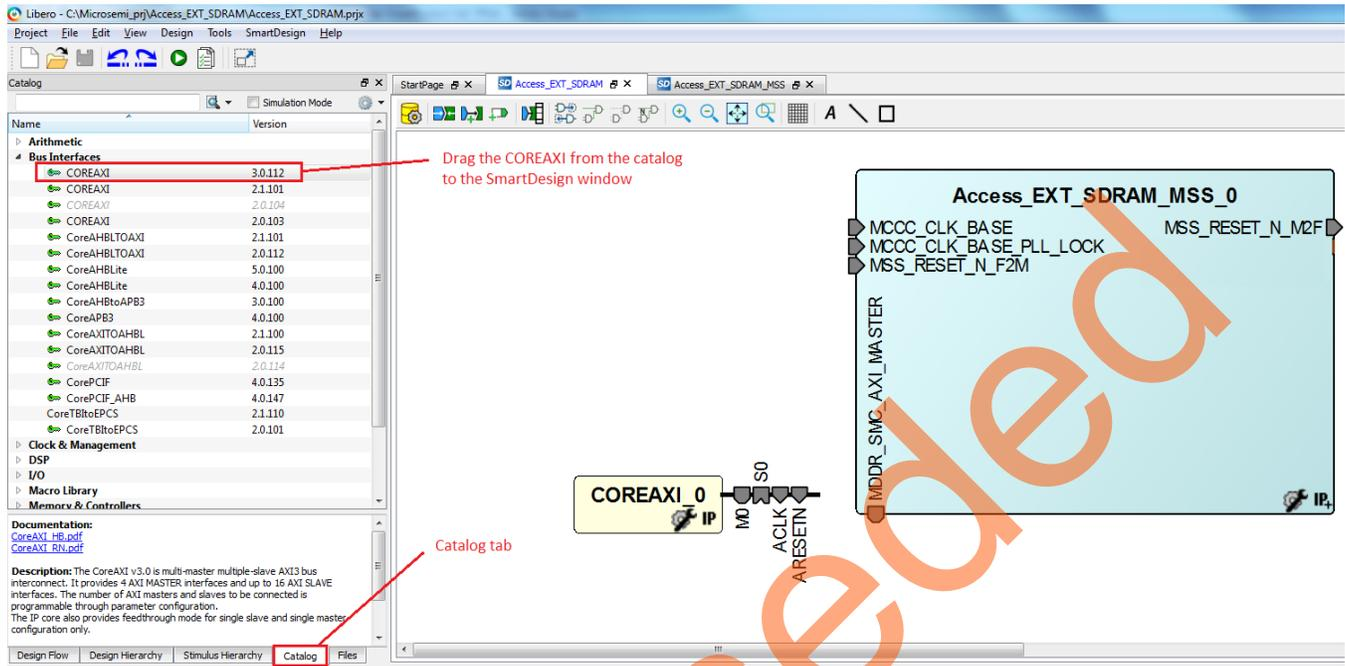

Figure 16. CoreAXI IP from the Catalog
1. Select the **CoreAXI** IP from the Bus Interface sub-section of the IP Catalog, as shown in Figure 16, and drag it onto the **Access_EXT_SDRAM** SmartDesign tab.